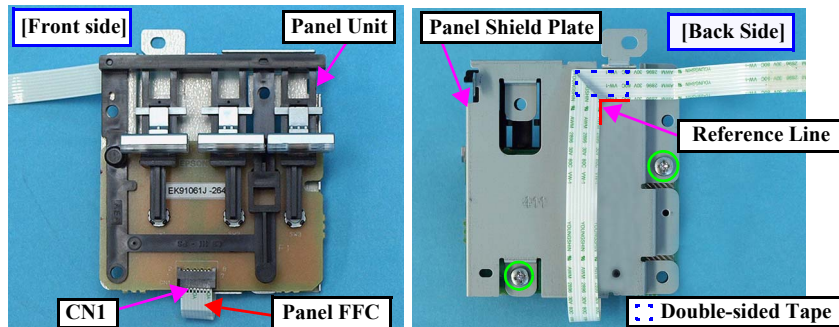

Figure 1-35. Removing the Panel Board / Buttons (2)
- Attach the Panel FFC with double-sided tape along with the reference line shown in Fig.1-35 (p.32).